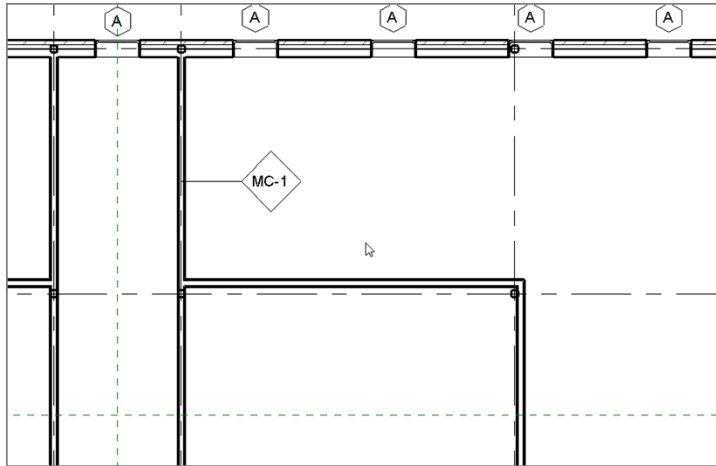

FIGURE 11.67: Adding the wall tag data
18. Call it MC-1, as shown in Figure 11.67.